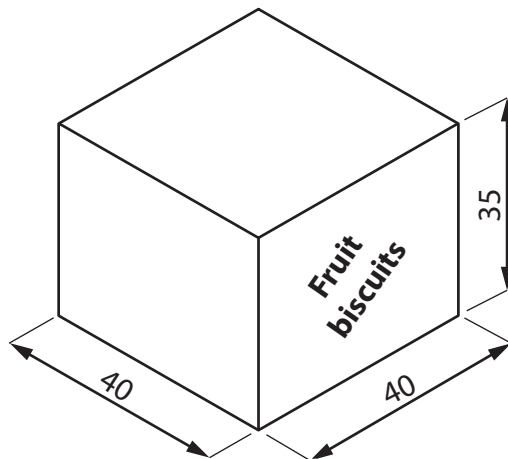

Figure 8
- 5 Figure 8 shows a design solution for a presentation case for boxes of biscuits together with some additional information.